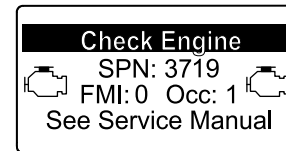

Figure 46
- Engine warning SPN 3719, FMI 0 (Figure 46)